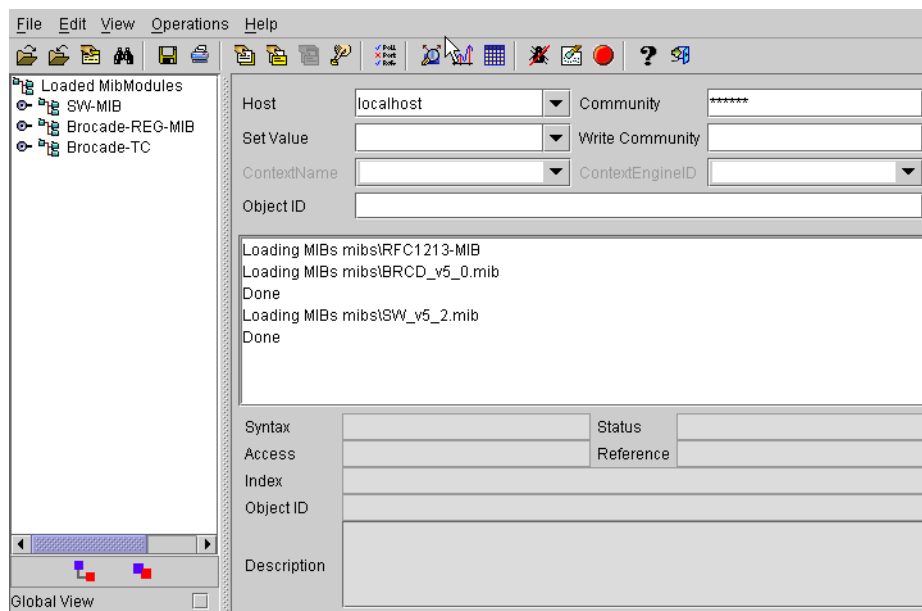

Figure 15 Configuring Fabric Watch using SNMP
The `fwFruCfg` command displays your current FRU configuration, as shown in Figure 14. The types of FRUs are different for the various platforms. In the prompt that follows your current FRU configuration, you are asked to provide values for each FRU alarm state and alarm action. To accept the default value for each FRU (as shown in Figure 15), press **Return**.
2. Load the appropriate MIB files. First, load the Brocade common MIB file (BRCD_v5_0.mib), followed by the Brocade software MIB file (SW_v5_2.mib). If this is successful, the system displays a screen similar to Figure 15.
In Figure 15, the MIB browser has populated the left side of the screen with a MIB tree that can be navigated.